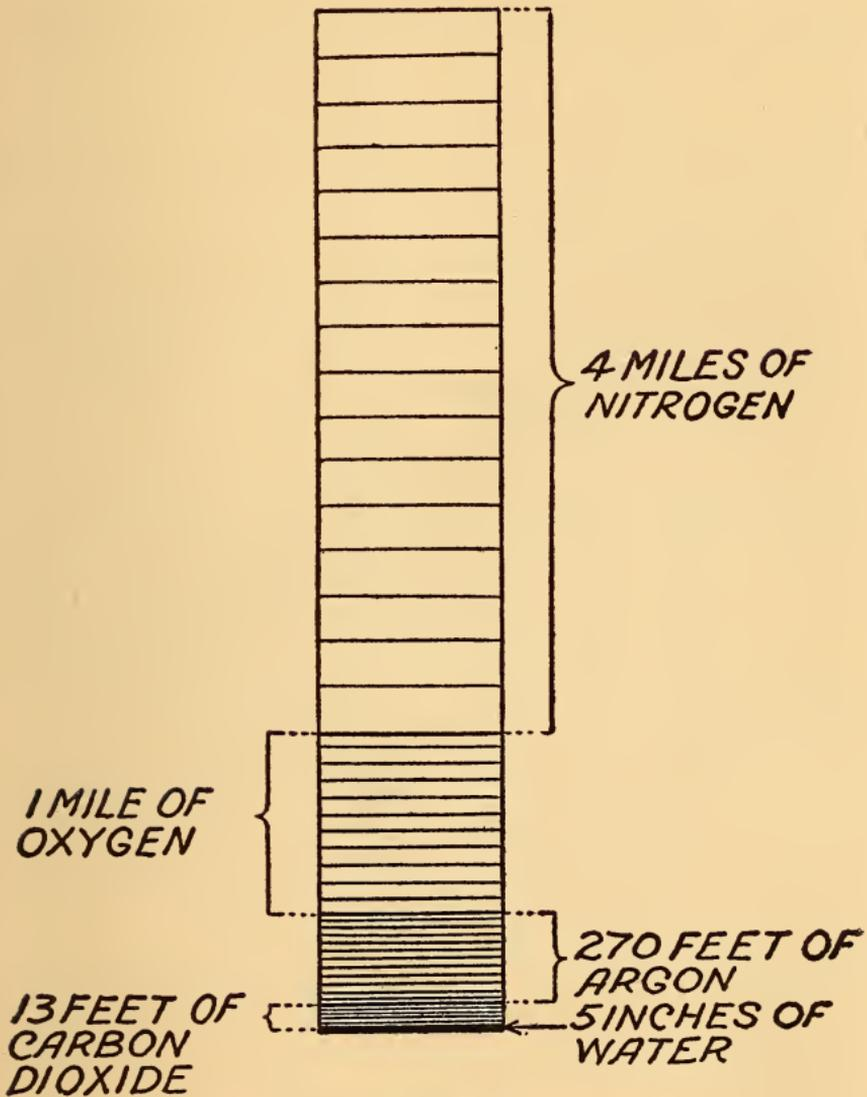

FIG. 1. WHAT AIR IS MADE OF
The atmosphere, or air, is made up of two gases, namely, (1) *oxygen* (O) and (2) *nitrogen* (N), and these are mixed in the proportion of one part of oxygen and four parts of nitrogen by bulk. While these two elements make up the larger part of the atmosphere the latter always has small amounts of other substances in it such as *carbon dioxide* (CO2), or carbonic acid gas as it is commonly called, water vapor, ammonia (NH3), a trace of *argon* (A), *neon* (Ne), *krypton* (Kr), and some other rare gases.3 See Fig. 1.